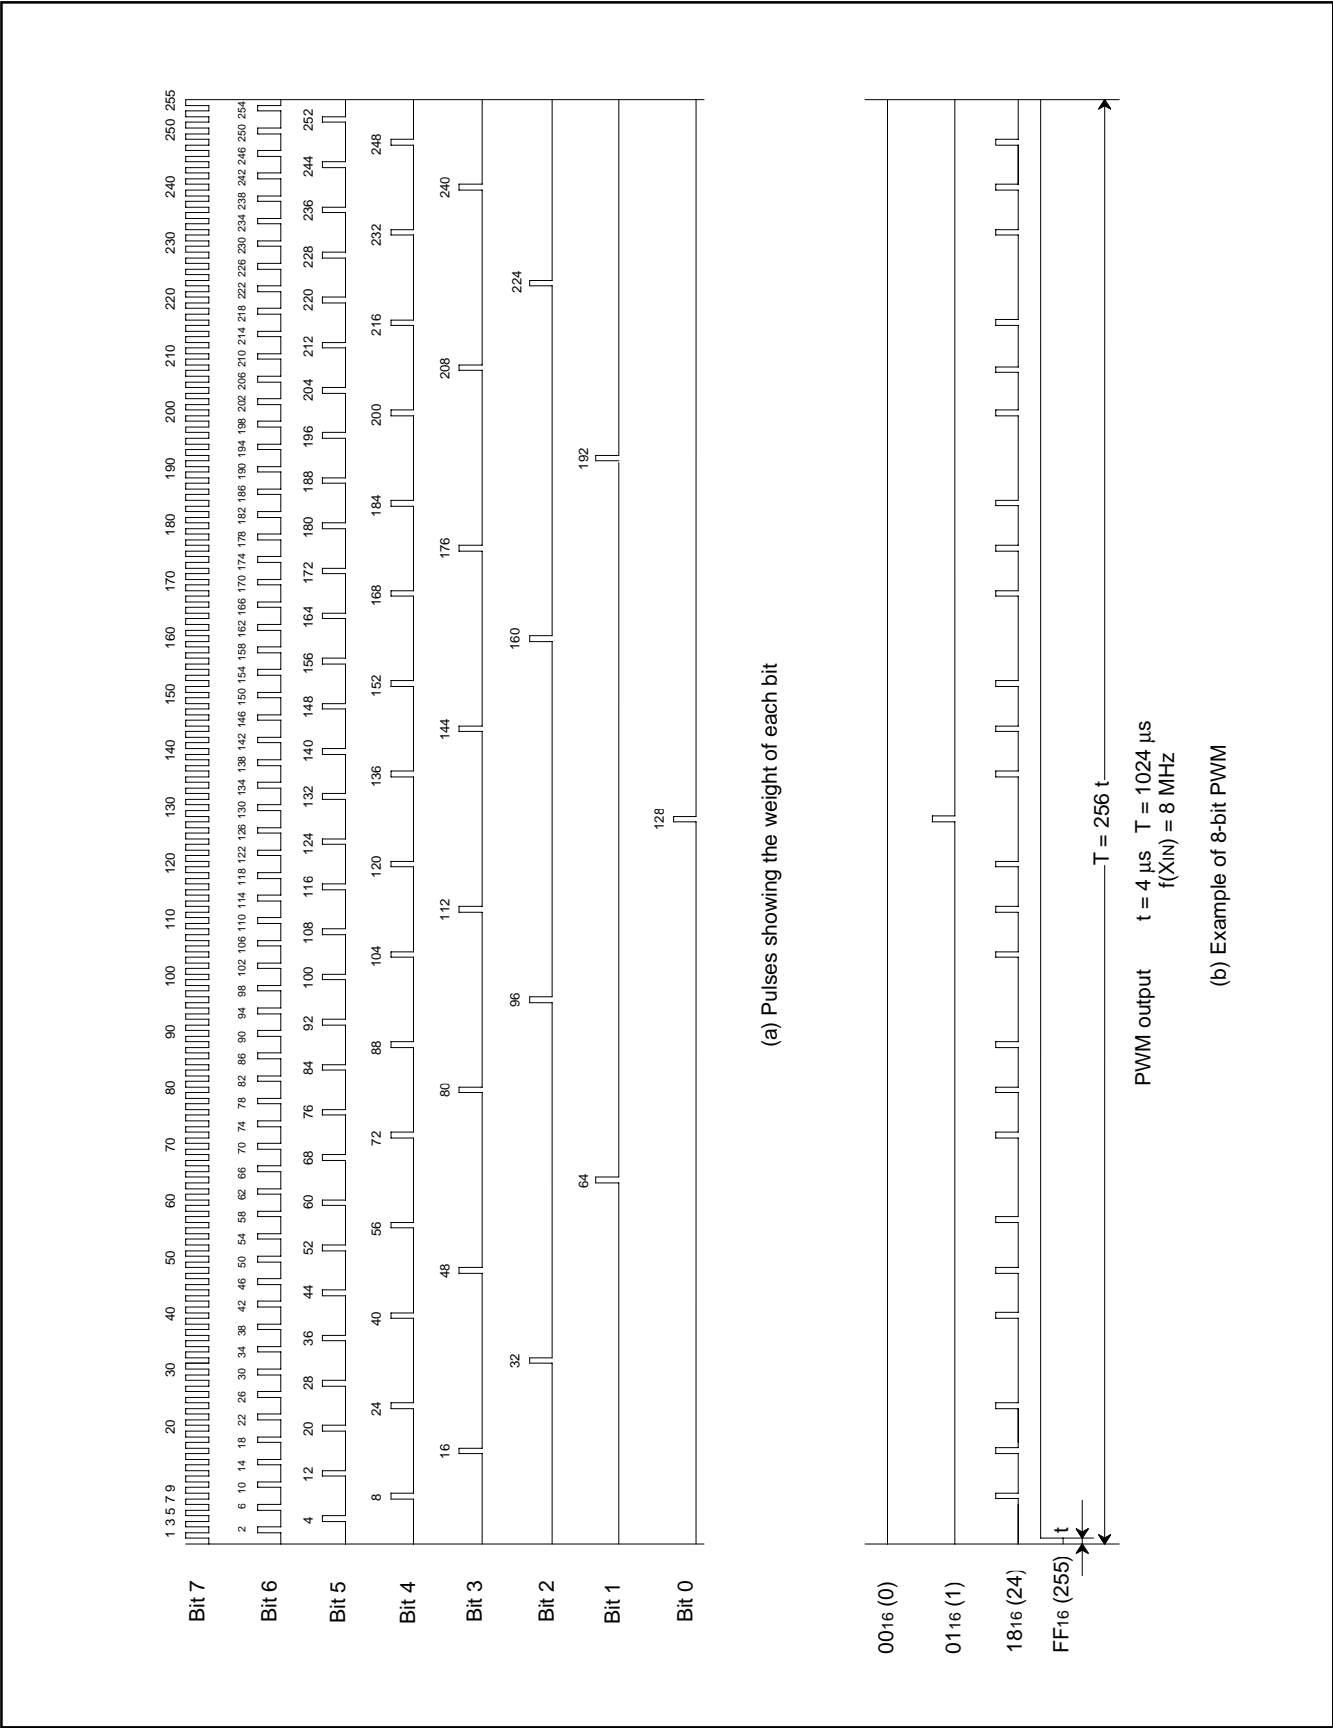

Fig. 8.7.2 PWM Timing
Figure 8.7.2 shows the PWM timing. One cycle (T) is composed of 256 ( $2^8$ ) segments. The 8 kinds of pulses, relative to the weight of each bit (bits 0 to 7), are output inside the circuit during 1 cycle. Refer to Figure 8.7.2 (a). The PWM outputs waveform which is the logical sum (OR) of pulses corresponding to the contents of bits 0 to 7 of the PWM register. Several examples are shown in Figure 8.7.2 (b). 256 kinds of output (HIGH area: 0/256 to 255/256) are selected by changing the contents of the PWM register. A length of entirely HIGH cannot be output, i.e. 256/256.